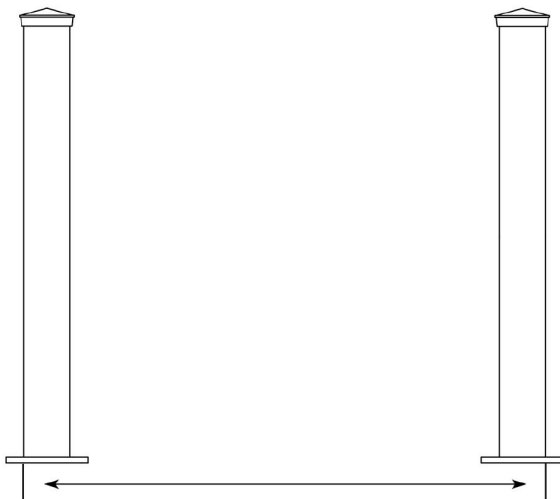

Figure 1
2. The maximum distance between posts is 1,800mm, measured from one end of the post as indicated in Figure 1 to the opposite end.